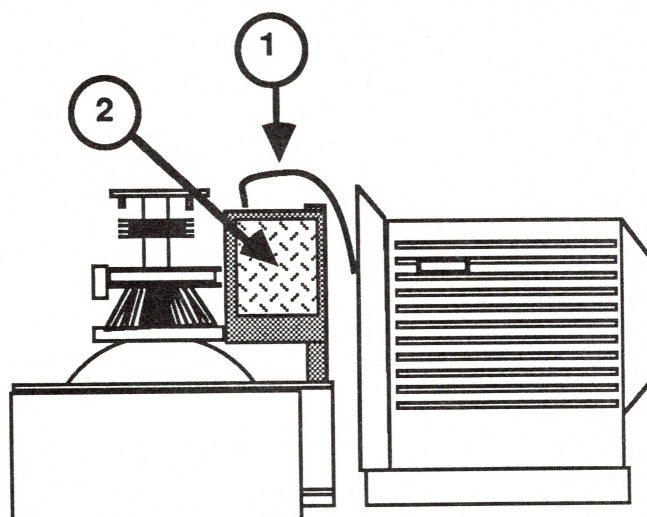

FIGURE 4
7. Set the rear cover right next to the monitor as shown in Figure 4.
9. Follow the power switch wire (Figure 4, #1) from the switch (inside the rear cover) to its connector on the power supply board. Disconnect the power switch connector from CN11 on the power supply board (Figure 4, #2).
**NOTE:** The connectors (CN) are labeled on both sides of the power supply board.